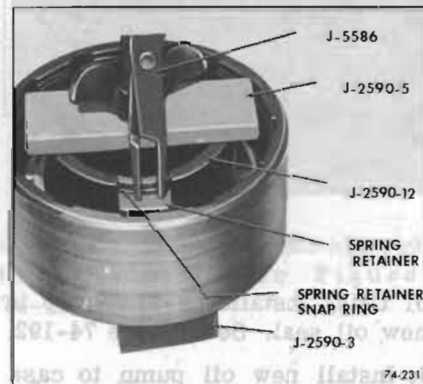

Figure 74-216
7. Using Tools J-2590-3, J-2590-5 and J-2590-12 compress spring retainer. Remove snap ring. Then remove Tool J-2590 and component parts, being careful that spring retainer does not catch in snap ring groove. See Figure 74-216.